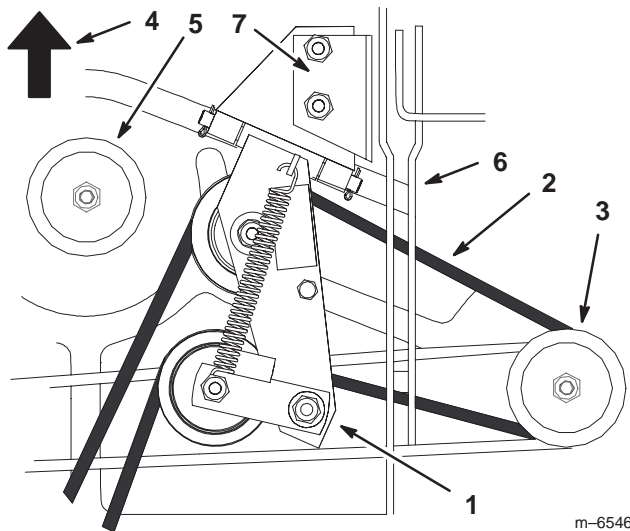

Figure 6
- Route the drive belt under the linkage to the top pulley of the blade spindle and around the front idler V pulley (Fig. 6).